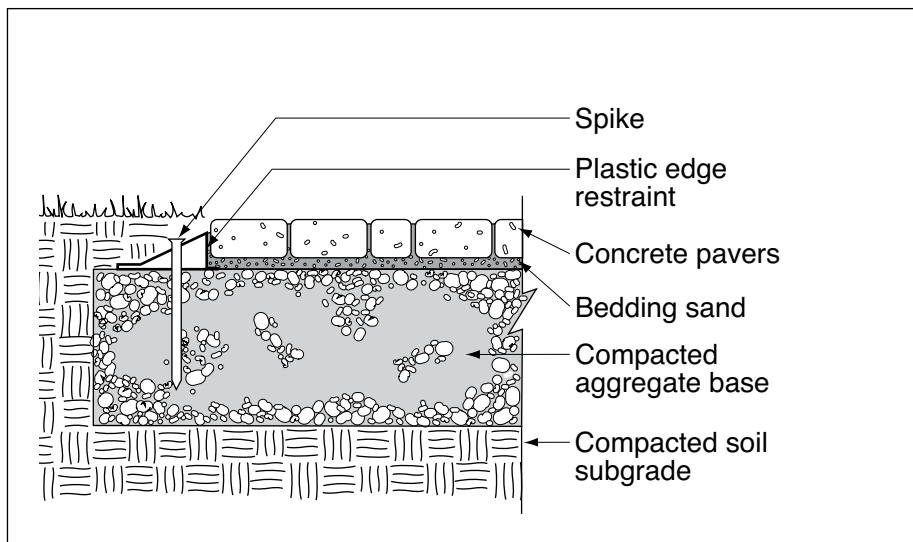

Figure 6. Plastic edge restraint.
**Plastic** edging installs quickly and will not rust or rot. Plastic edging should be specifically designed for use with pavers. It can be used with light duty residential and commercial applications, depending on the design. It should be firmly anchored into the compacted aggregate base course with spikes (See Figure 6). The spikes should penetrate well into the aggregate base. Spikes do not need to penetrate the bottom of the base. Consult the manufacturer's literature for the recommended size and spacing of the spikes.